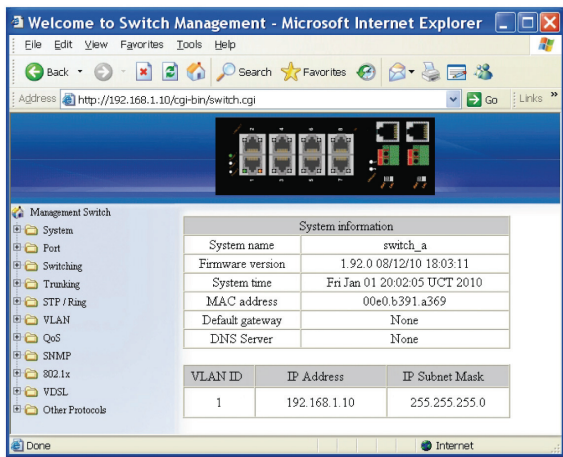

Figure QS-5. Welcome screen.
2. Enter the factory default login ID: root. Enter the factory default password (no password), then click on the “Login” button to log in to the Ethernet Extender Switch. You’ll then see the Welcome screen as shown in Figure QS-5.